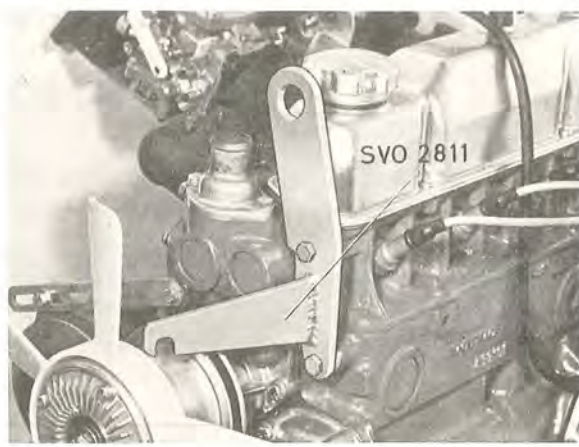

Fig. 2-9. Lifting arm SVO 2811 on engine front end
10. Fit lifting arm SVO 2811 to the front end of the engine as shown in Fig. 2-9 and lifting arm SVO 2812 on the engine rear end as shown in Fig. 2-10. Jack up the vehicle with four blocks.